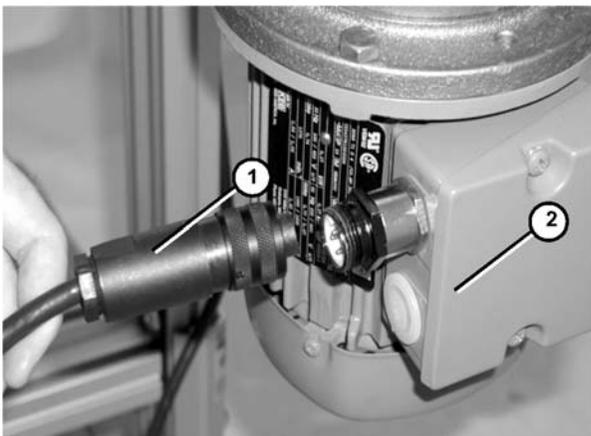

Figure 14
1. Connect motor cord (Figure 14, item 1) to motor (Figure 14, item 2).